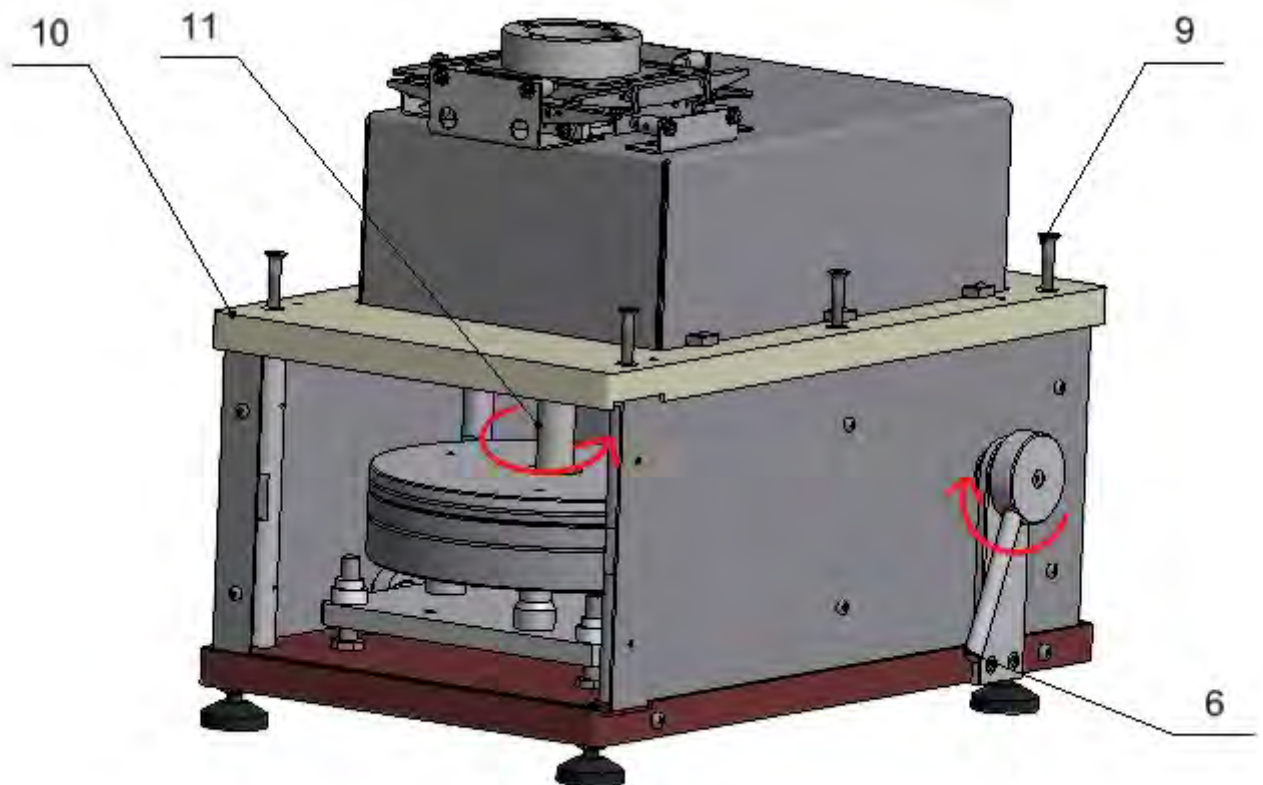
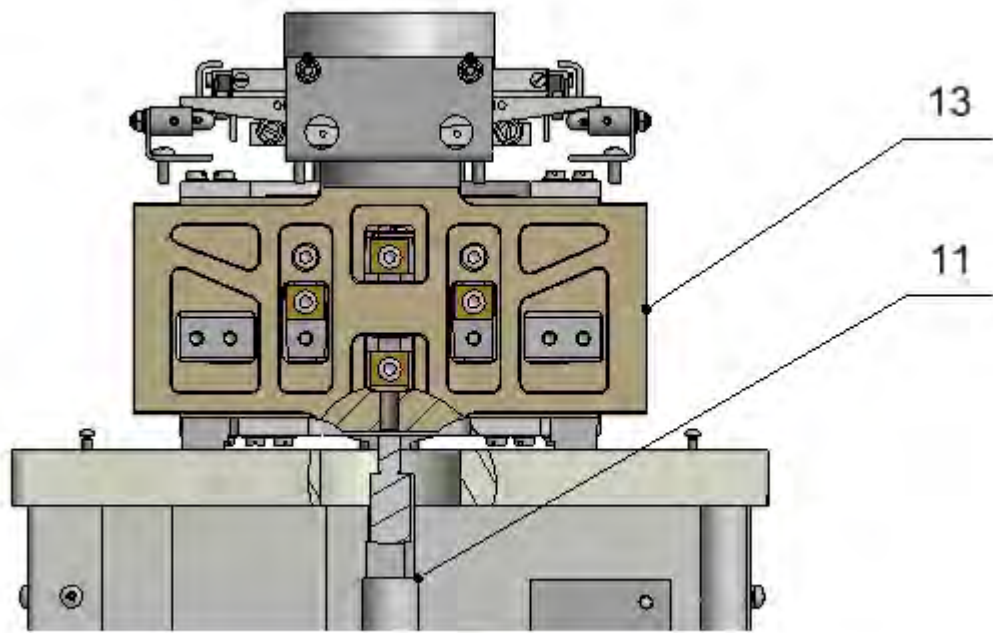

Fig.5
Fig.6
9. Use six M6 screws (9) to fix the lid (10). (Fig.5)
10. Fix the weighing pan connecting member (11): in a stepwise manner rotate the lever (6) (so that the weighing pan from being maximally loaded turned to its contrary position) thus fixing connecting member (11) to a vertical rocker (13). (Fig. 5 and Fig.6)